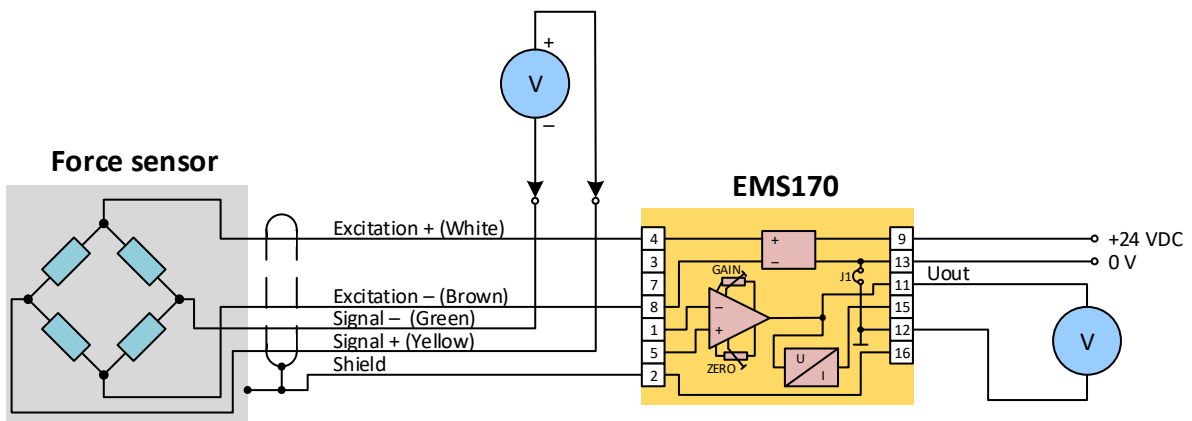

Fig. 12. Measurement the output voltage of the sensor
5. **Check the sensor output voltage.** Overload of the sensor is relatively common error and it is manifested by the fact that the output voltage of the unloaded sensor (which should theoretically be zero) exceeds the allowed tolerance. The voltage can be measured in the circuit according to fig. 12.